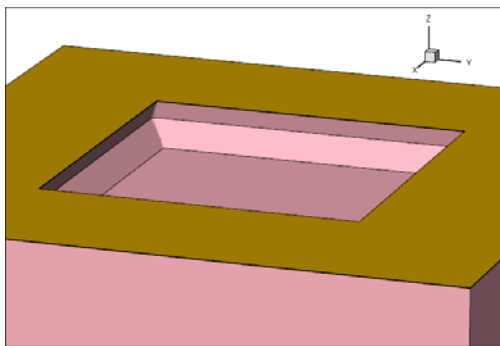

Figure 56 Three-dimensional trapezoidal etching produced with angle=110, thickness=0.3, bottom.angle=45, and bottom.thickness=0.400
- Case 2: A thickness (or rate and time), an angle (optional), and bottom.thickness and bottom.angle (optional) are specified. If angle is not specified, it defaults to 90° (vertical). Here, a special condition applies: angle must be greater than or equal to 90° , while bottom.angle must be smaller than or equal to 90° . That is, the *first etching* penetrates behind the mask, while the second one does the opposite. Figure 56 on page 226 shows an example of this type.